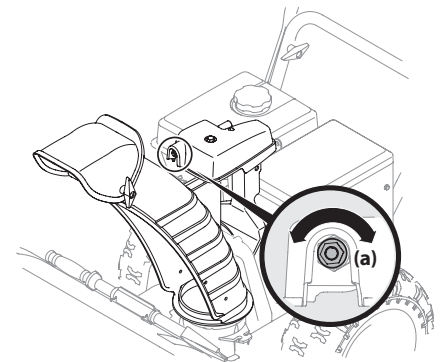

Figure 4-12
- To increase preload, tighten hex nut (a) clockwise in ¼ turn intervals. The chute control rod will need to be held stationary when tightening the nut. See Figure 4-12